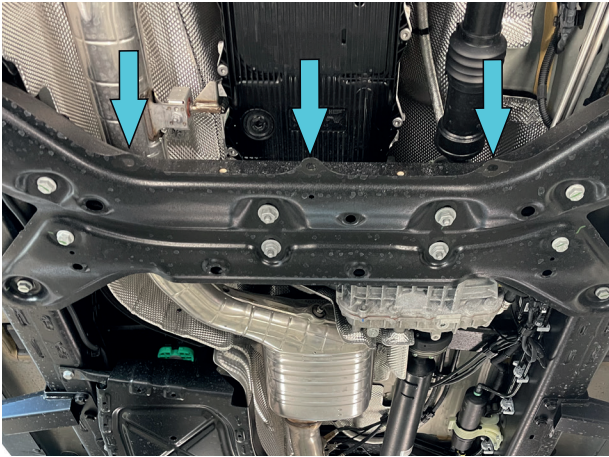

Fig. 5
4. Install insert nut M10 (item C) into holes shown in fig.5.
5. Loosen bolts M10x30 with washers 10 (item B, E) into insert nuts M10 from step 4 (fig. 5).